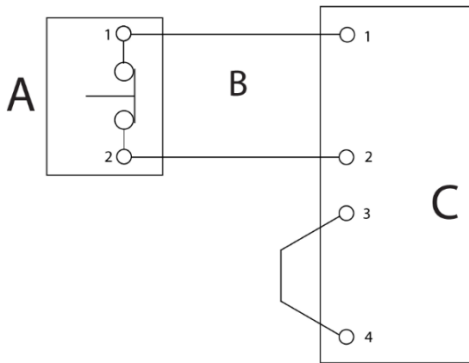

Figure 30. Normally-closed remote EPO switch wiring
This procedure is intended for installing the Eaton-supplied remote EPO switch. If you are installing another manufacturer's switch, use this procedure, and Figure 29 and Figure 30 as a guide.
5. Connect the wiring as shown in Table 17 and Figure 29 for a normally-open remote EPO or Table 18 and Figure 30 for a normally-closed remote EPO.